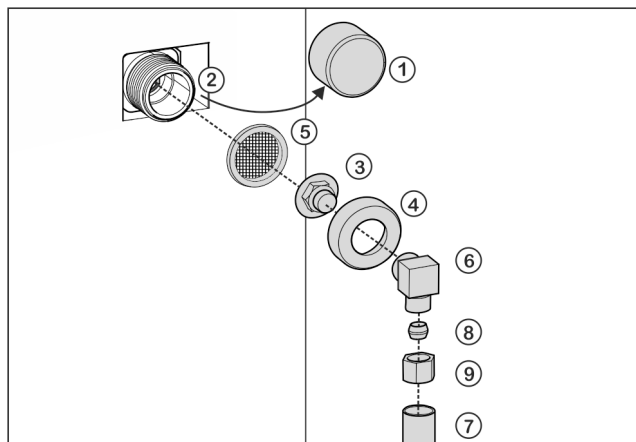

Fig. 52
- ▶ Remove cap Fig. 52 (1) from solenoid valve Fig. 52 (2).
- ▶ Insert coupler Fig. 52 (3) into union nut Fig. 52 (4).
- ▶ Insert the filter Fig. 52 (5) with the recess pointing down towards the coupler Fig. 52 (3).
- ▶ Screw the union nut Fig. 52 (4) by hand onto the thread of the solenoid valve Fig. 52 (2) until it is firmly in place.
- ▶ Screw on angle piece Fig. 52 (6).
- ▶ Connect the water pipe Fig. 52 (7) (e. g. 1/4" OD copper pipe) with the clamp ring Fig. 52 (8) and nut Fig. 52 (9) to the elbow connector Fig. 52 (6).
- ▶ If necessary: Fasten the water pipe Fig. 52 (7) to the housing with the guide clip.
- ▶ Put angle piece Fig. 52 (6) to one side.
- ▶ Connect the water pipe Fig. 52 (7) (e. g. 1/4" OD copper pipe) with the clamp ring Fig. 52 (8) and nut Fig. 52 (9) to the coupler Fig. 52 (3).